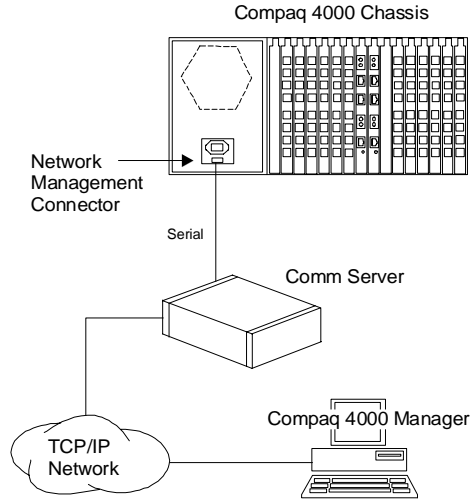

Figure 2-15. Connecting to a Remote Comm Server
1. Attach a DB9 connector of a straight through serial cable to the network management connector on the rear of the chassis' power supply. See Figure 2-15.
2. Attach the other end of a serial cable (either a DB25 or RJ45, depending on the comm server's configuration) to a serial port on your comm server. See Figure 2-15.